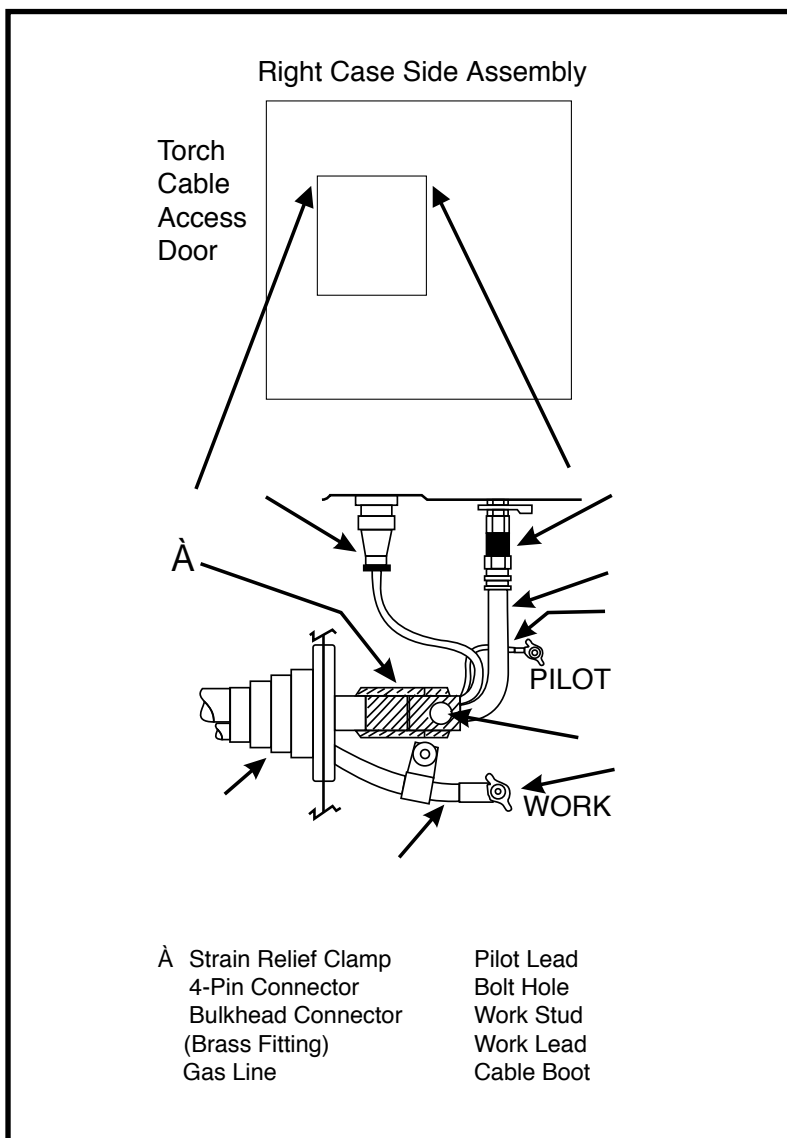

FIGURE F.3 - Torch Cable Connections
4. Disconnect and remove the torch cable from the bulkhead compartment. See Figure F.3.